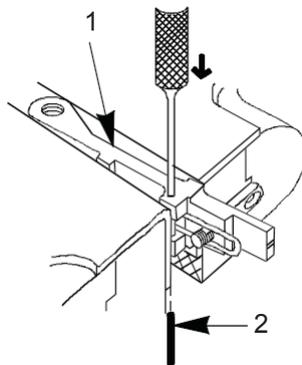

Figure 27. Sight Leaf Assembly, Spring Pin .
38. Place sight leaf assembly (Figure 27, Item 1) in vise with protective jaws. Remove spring pin (Figure 27, Item 2) and discard.